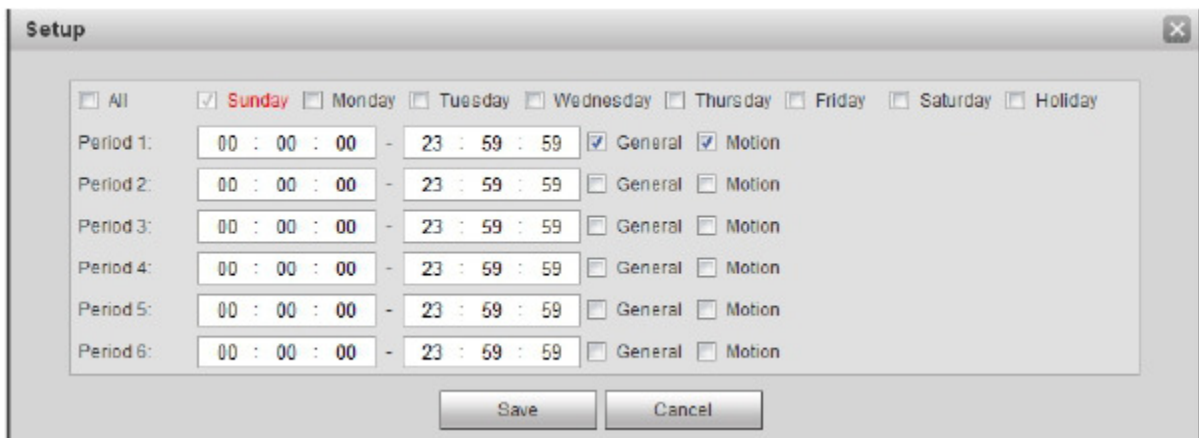

Figure 5-61
Step 2. From Monday to Sunday select snapshot time, click on setup on the right. See Figure 5-61.